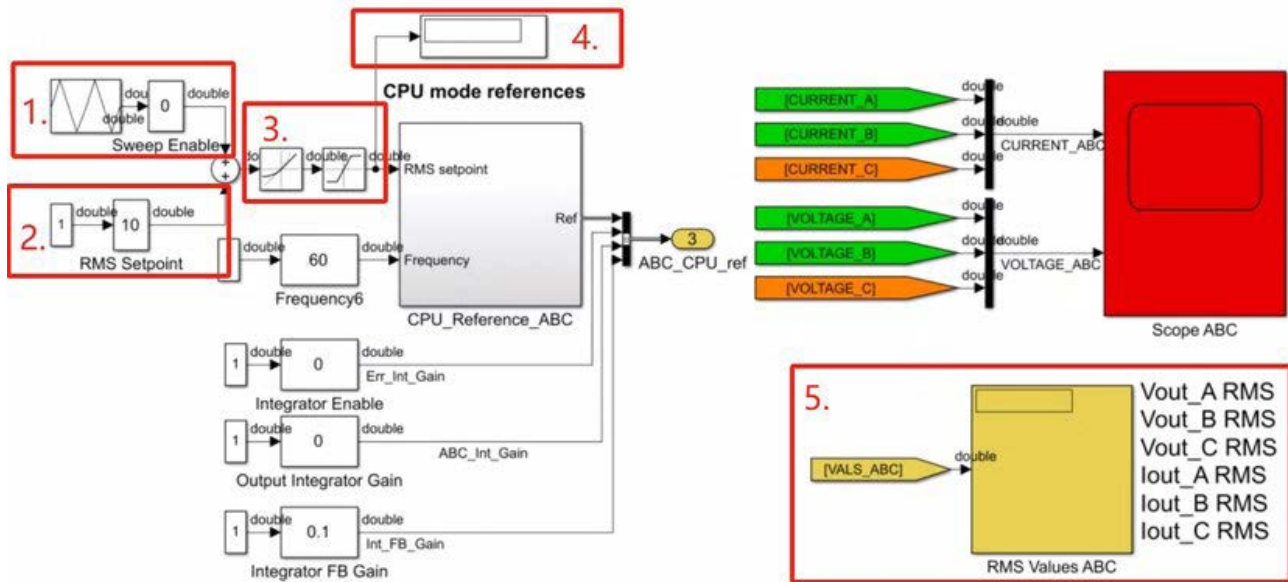

Fig. 2 OP1400 Power Amplifier UI
To control and monitor the amplifier, a user interface (UI) has been implemented; see Fig. 2. The UI serves as the control panel of the OP1400 power amplifier is executed using a real-time simulator. This interface is critical in ensuring the successful operation of the experimental platform during the testing experiments, as it allows the user to adjust parameters and observe the system's behavior in real-time. In Figure 2, enclosed in red squares and numbered, are the different